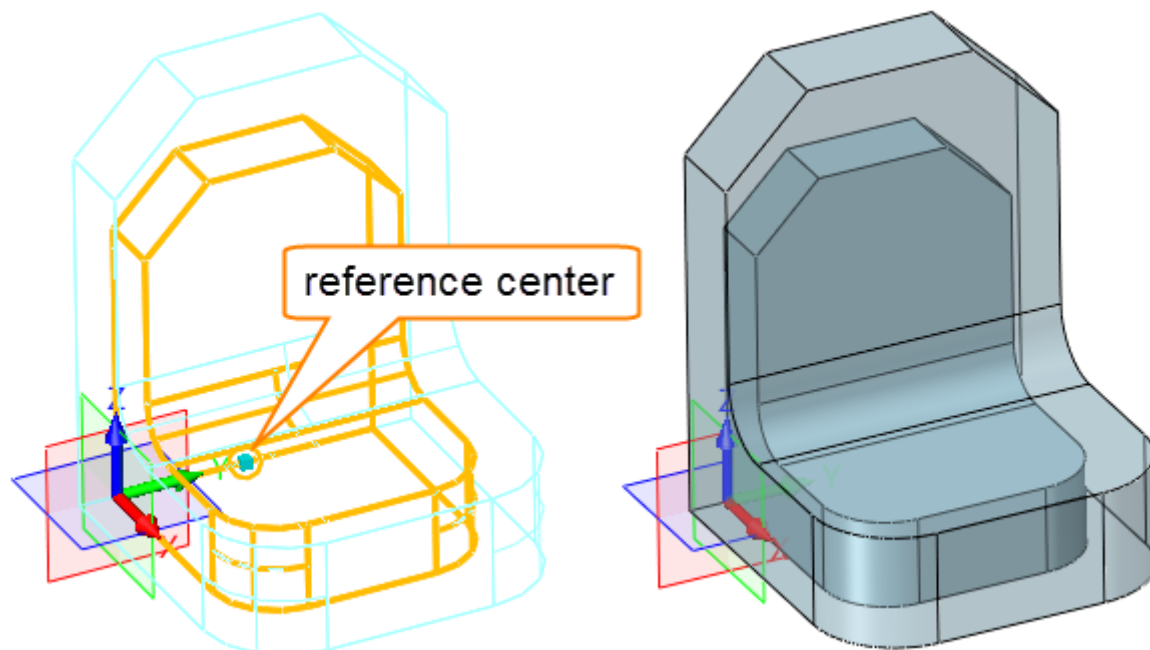

Figure 97 Scale-- Uniform
STEP 04 Define the scale reference if necessary. E.g., pick a new point as the scaling center, as shown in the Figure97.